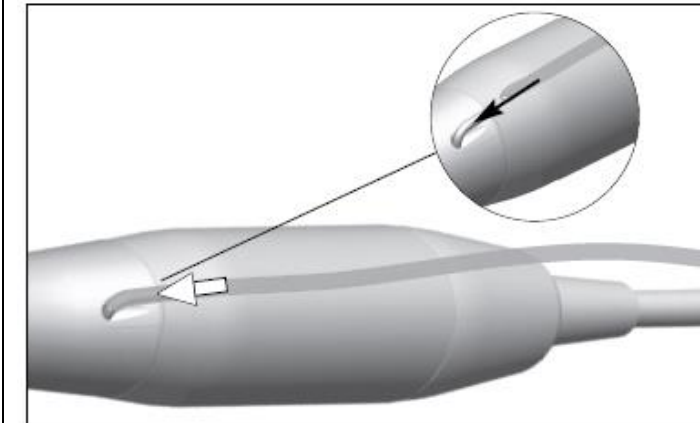

fig. 7
J. Connect the flexible hose of the irrigation line to the spray tube of the handpiece or contra-angle **fig.7**.